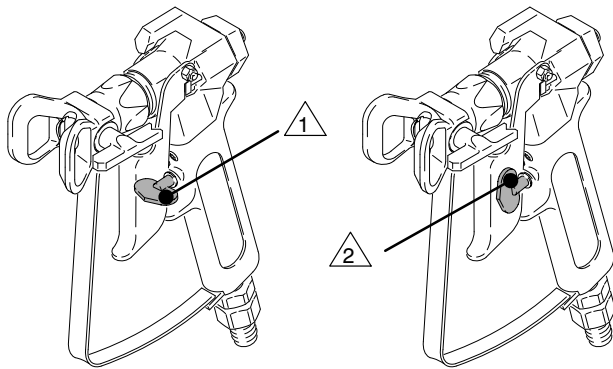

Fig. 3 01020A
When engaged, the gun safety latch prevents the gun from accidental triggering. See Fig. 3.
4. **Turn the pressure knob (64) to the minimum setting.**
5. **Disengage the gun trigger safety.** See Fig. 3, page 7.